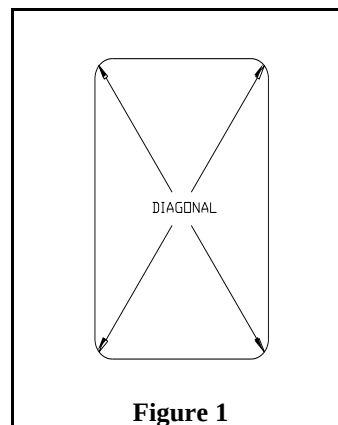

Figure 1
2. Check rough opening to insure that it is both square and plumb. The rough opening should be  $\frac{1}{2}$  inch larger than the framework of the door to be installed. The diagonal measurements should be within  $\frac{1}{4}$  inch of each other. (See Figure 1)